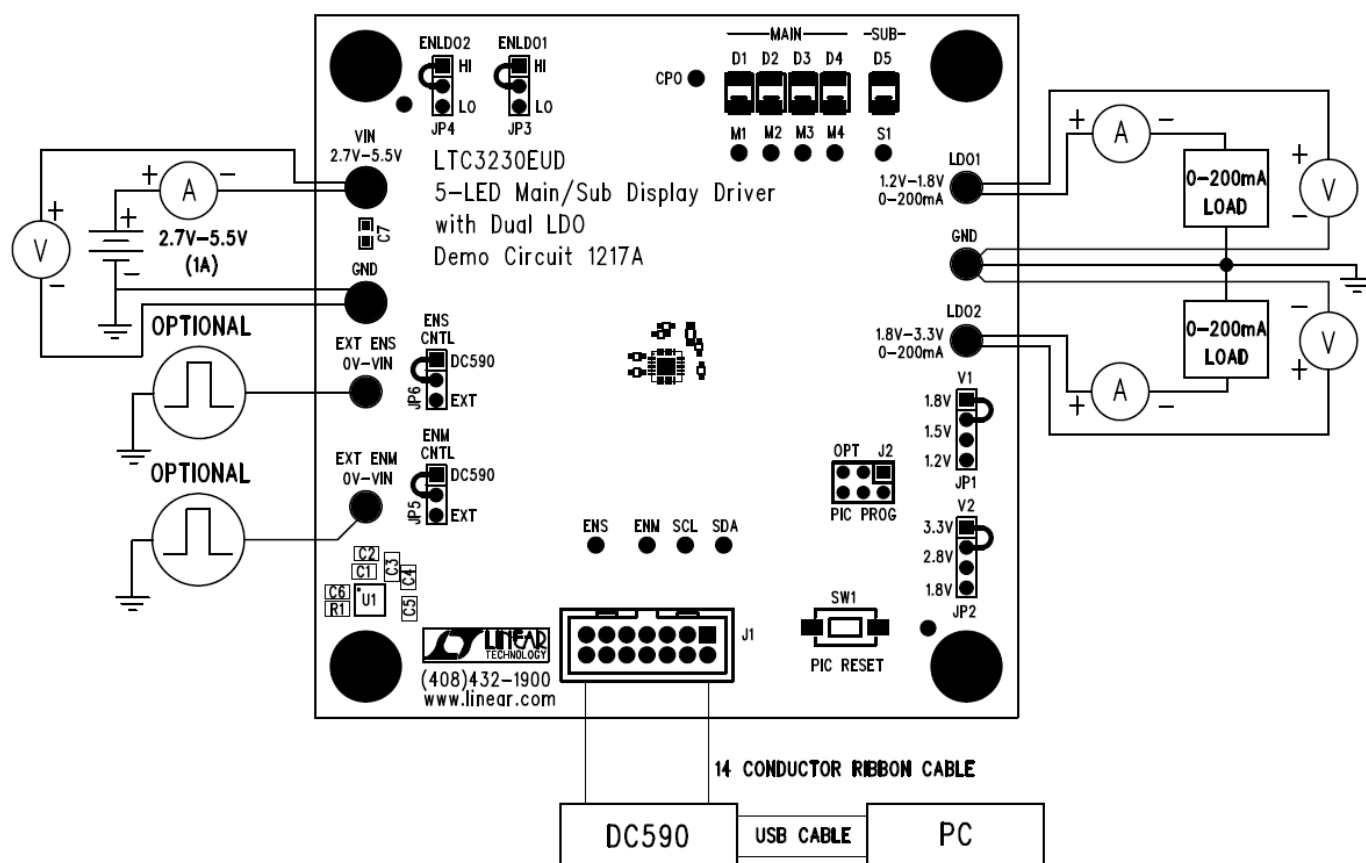

Figure 1. Proper Measurement Equipment Setup
Demonstration circuit 1217 is easy to set up to evaluate the performance of the LTC3230. Refer to Figure 1 for proper measurement equipment setup and follow the procedure below:
5. Connect DC1217 to the DC590 USB Serial Controller using the supplied 14-conductor ribbon cable as shown in Figure 1.